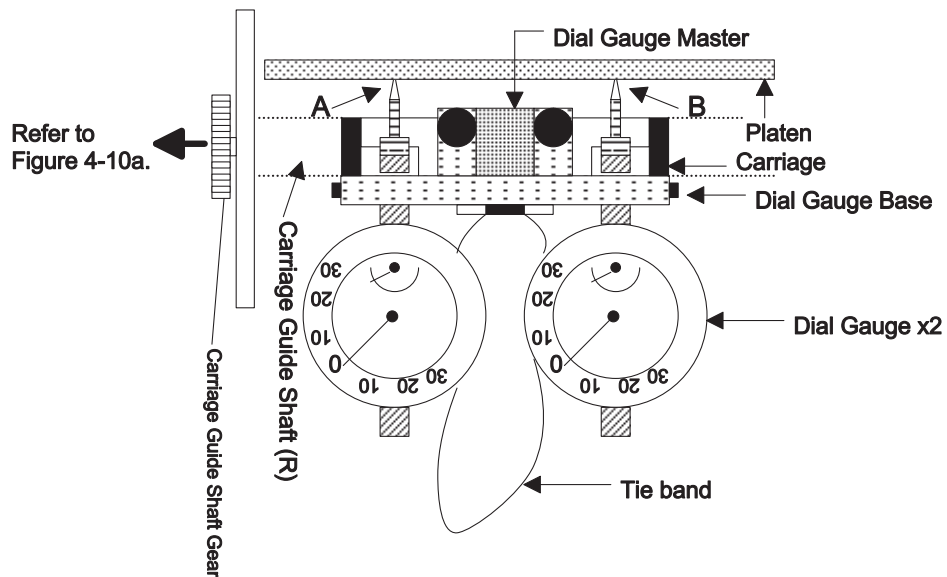

Figure 4-10. Dial Gauge Attachment
Step 11: Using the carriage guide shaft gear, adjust the gauge mounting position so that the tips of the gauges (portions A and B in the Figure 4-10) are securely attached to the platen.